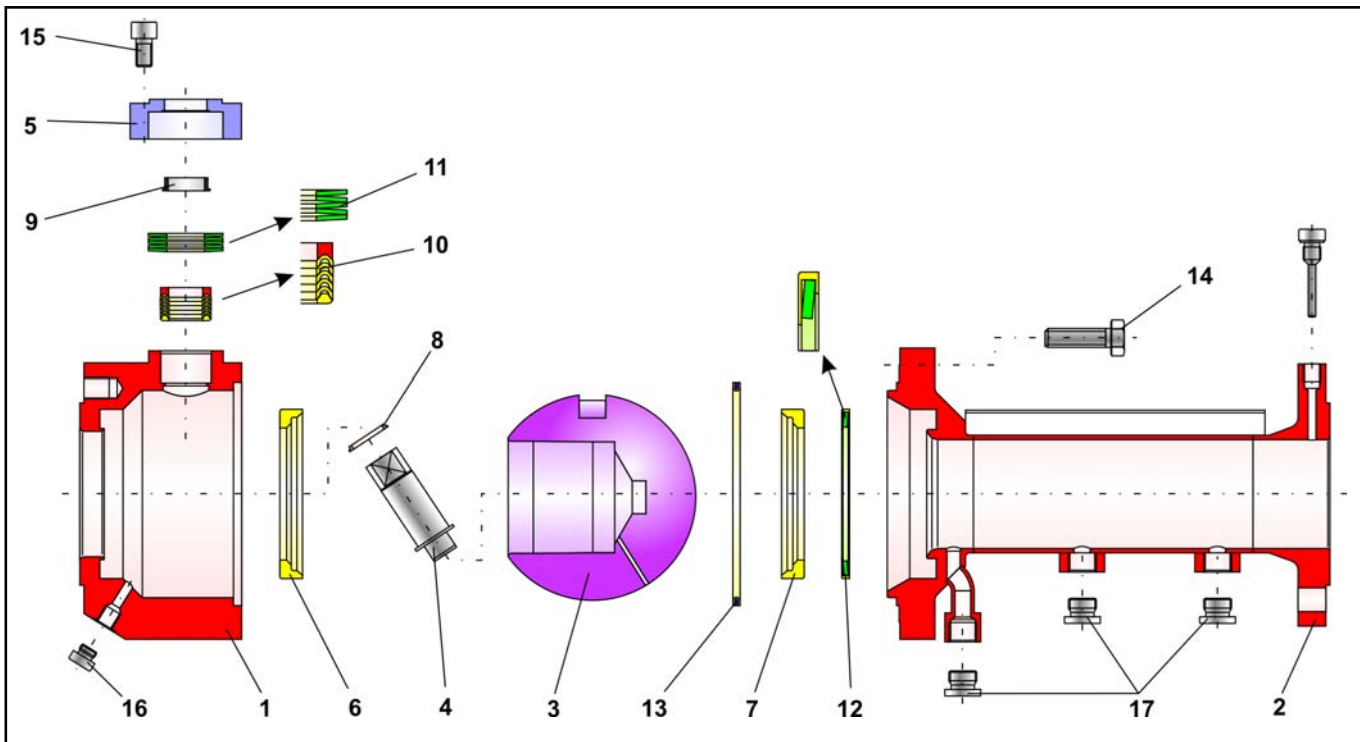

Fig 3 - Explosion drawing of pig loading ball valves DN 50 up to DN 100
Note: The position and arrangement of the individual parts shown in the explosion drawing (Fig 3) must be observed when assembling the valve.
Place the lined spring washer (7) in the side body (2). Refer to the drawing (Fig 3) for assembly position
With a light rotating movement, place the V-ring packing (10) over the control shaft (4) and insert in the packing chamber of the main body (1). Refer to the explosion drawing (Fig 3) for positioning the V-rings
Now place the spring washer set (11) on the V-ring packing. Also here, refer to the explosion drawing (Fig. 3) for positioning the spring washers